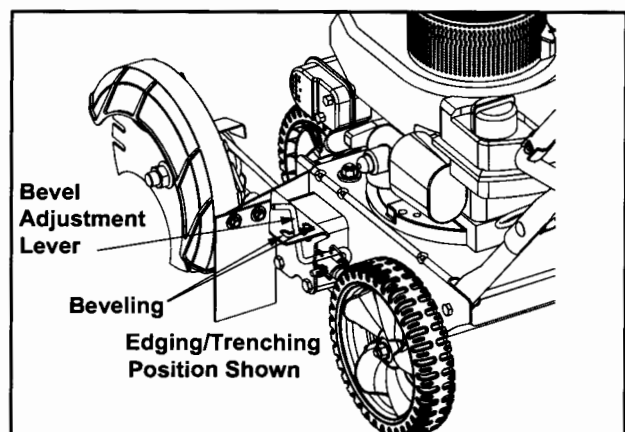
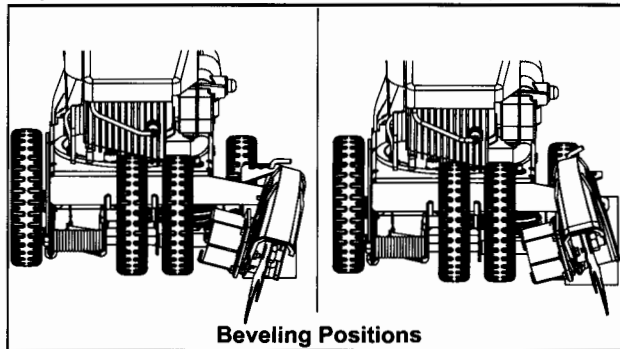
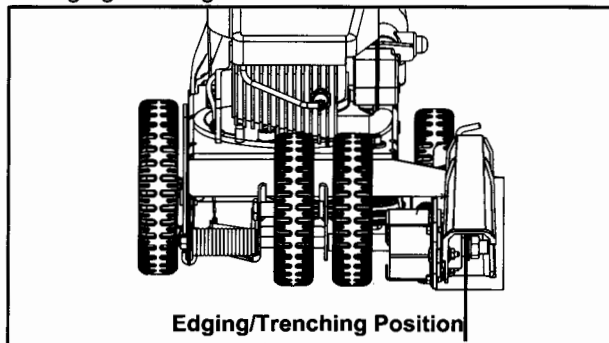

Figure 5
Figure 6
Figure 7
The angle of the edger blade can be adjusted by placing the bevel adjustment lever in one of three positions for edging/trenching or beveled edging. See Figure 5.
Set the bevel adjustment lever (refer to Figure 5) in the first (left hand) or third (right hand) notch to place the edger blade in position for beveling. See Figure 6.
Set the bevel adjustment lever (refer to Figure 5) in the center notch to place the edger blade in a 90° position for edging. See Figure 7.
- Set the bevel adjustment lever (refer to Figure 5) in the center notch to place the edger blade in a 90° position (see Figure 7) and place the blade depth control lever in the lowest position.